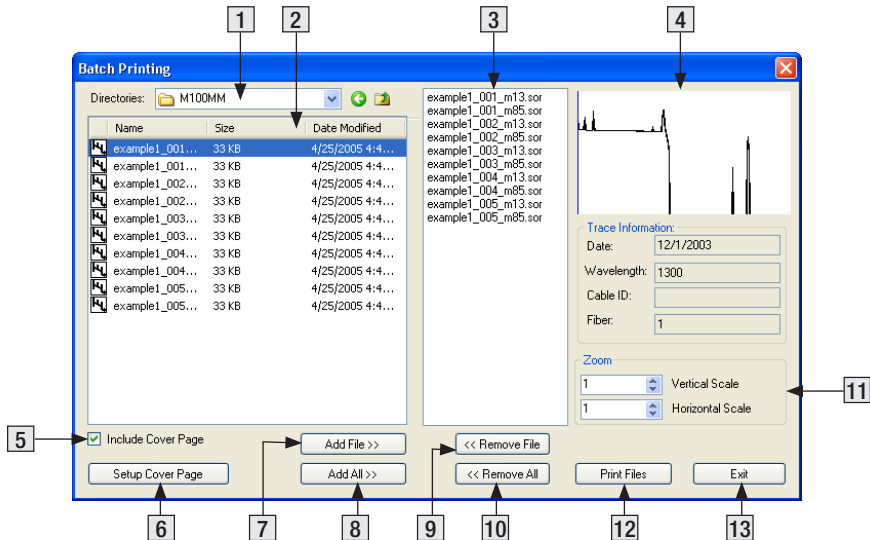

Figure 6-2: Batch Print Dialog Box.
The table below gives a summary of the [Batch Print] dialog box features (refer to Figure 6-2).
1. From the [File] menu, select the [Batch Print] command to access the [Batch Print] dialog box (refer to Figure 6-2).
1. From the [File] menu, select the [Batch Print] command to access the [Batch Printing] dialog box (refer to Figure 6-2).